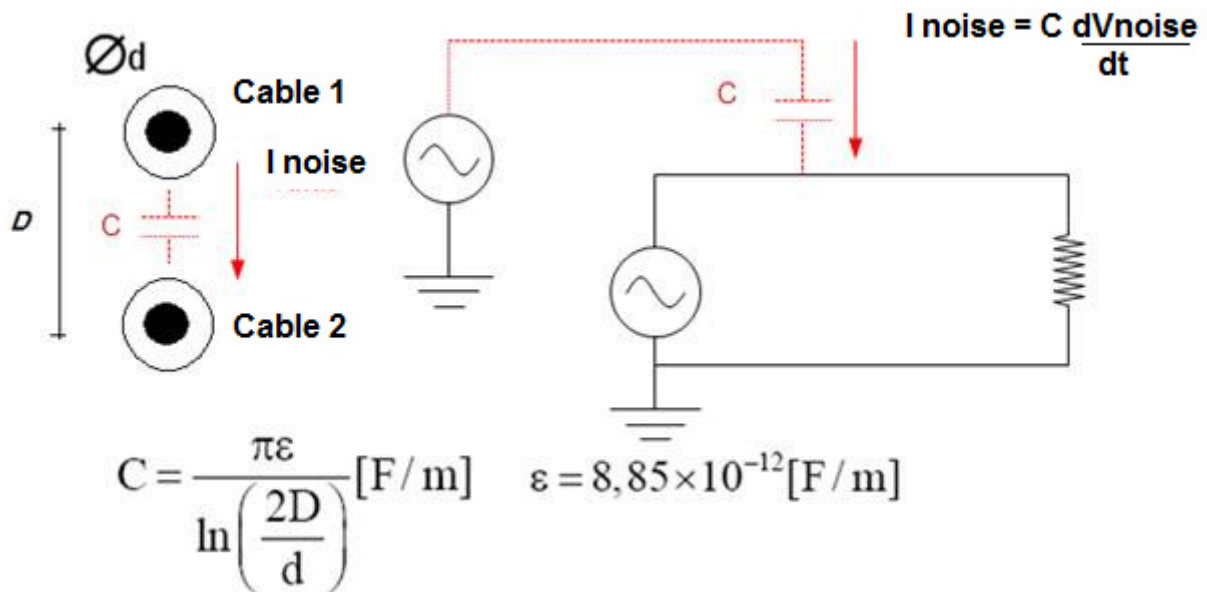

Figure 16 – Capacitive coupling between conductors at a D distance
- Figure 16 shows the capacitance on the coupling between two conductors separated by a D distance.